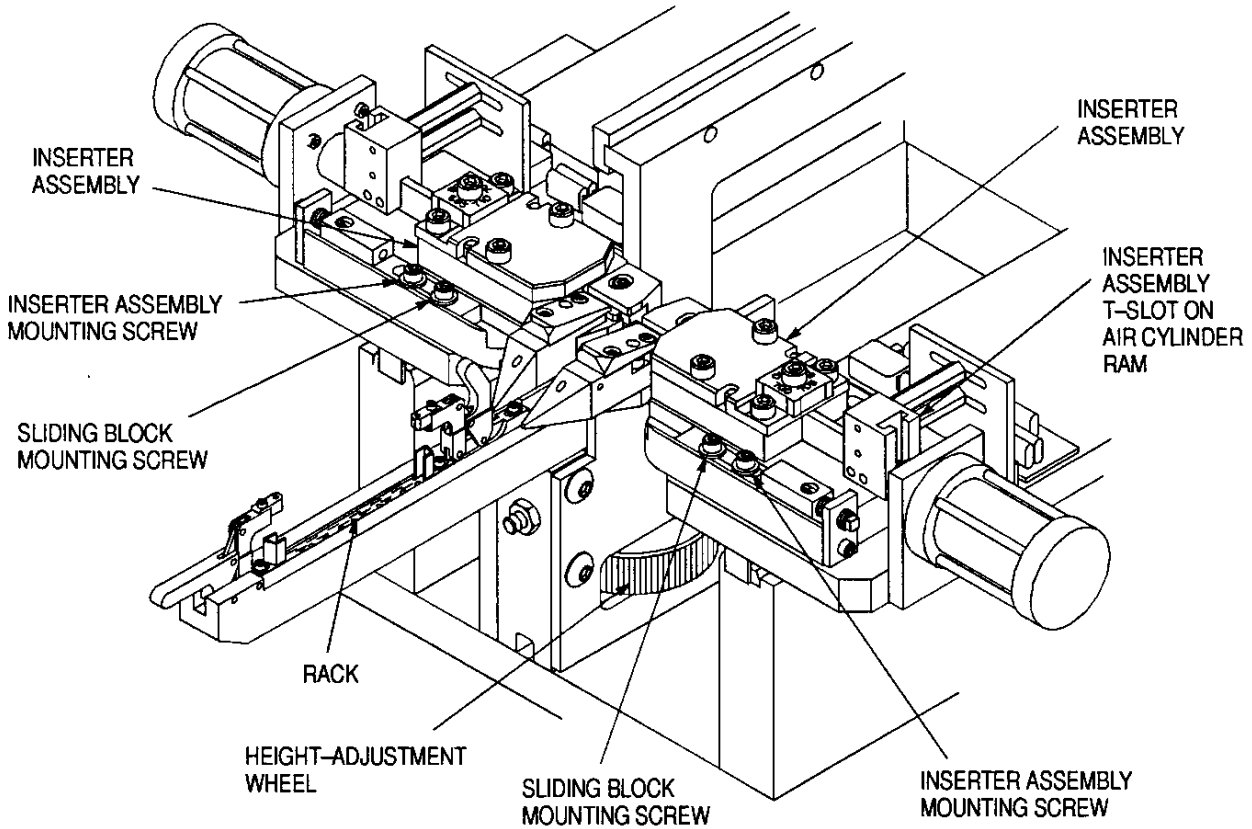

Figure 3
3.2. Inserter Assemblies (Figure 3)